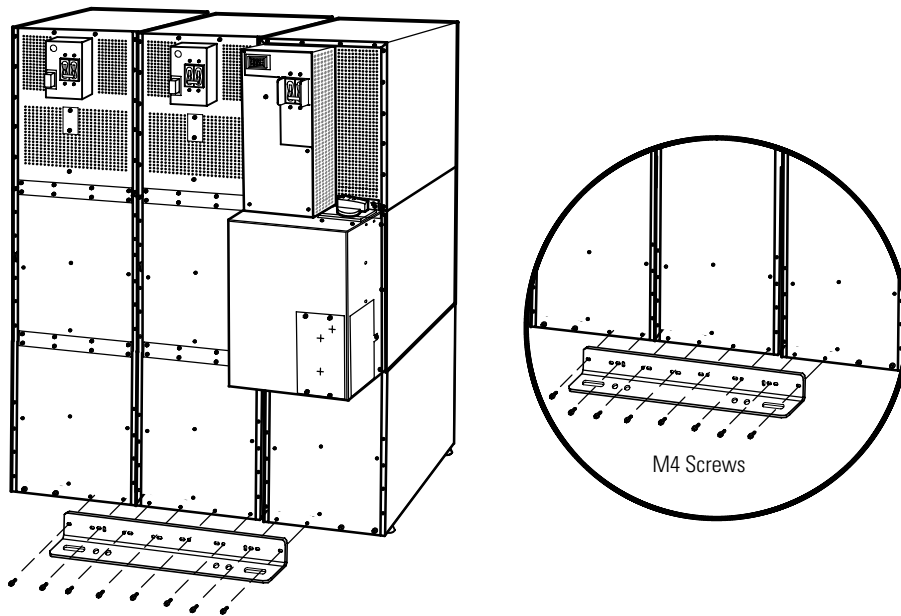

Figure 31. Stabilizing Bracket with Three Cabinets
- For three cabinets, see Figure 31.